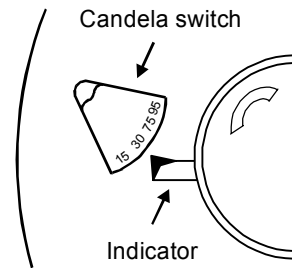

Figure 4: Candela switch
4. Slide the candela switch to the desired candela output (15, 30, 75, or 95 cd) by aligning it with the indicator below the switch. See Figure 4.